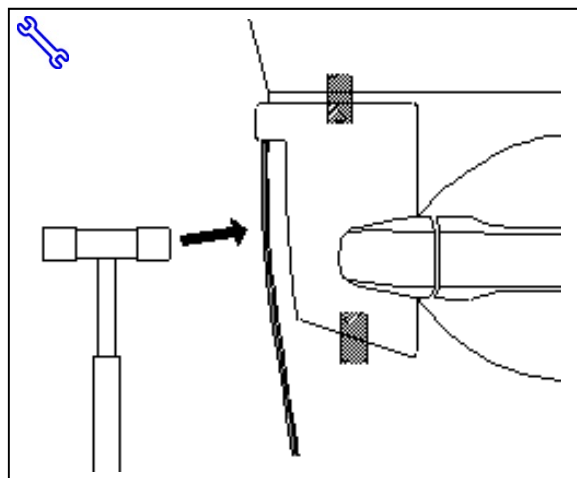

Fig. 1-11
- (m) While holding DEG in proper alignment with one hand (indicated by arrow), use **soft side of the rubber mallet** to begin tapping the channel onto the door edge. Start three (3") inches below the top of the DEG working your way to the top of the DEG. (Fig 1-11)